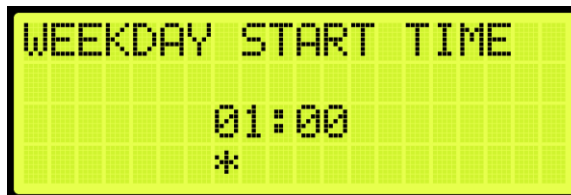

Figure 265: WEEKDAY START TIME Menu
8. From the WEEKDAY START TIME menu, set the start time of the hall call security (See Figure 265).